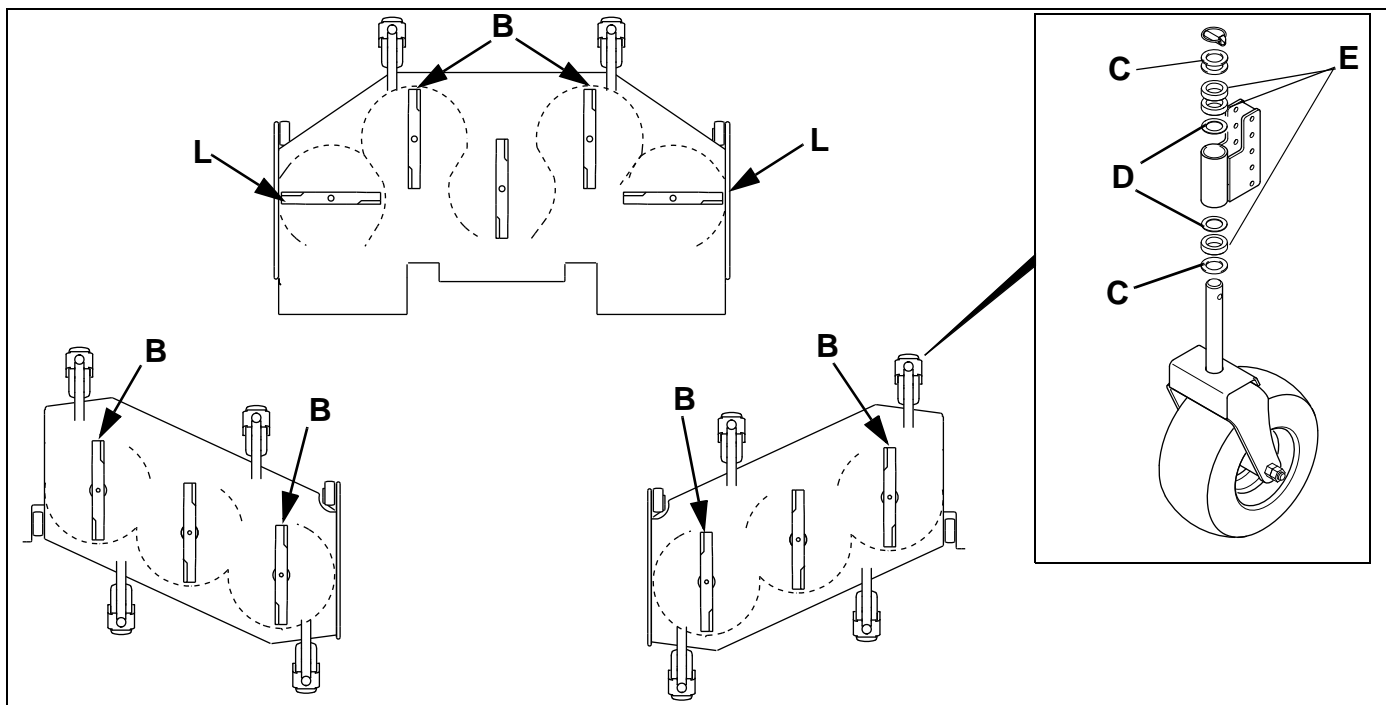

Figure 4A
2. Rotate front deck blades to positions shown in **Figure 4A**.